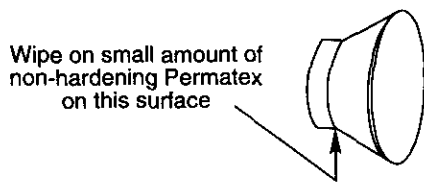

Figure 13
- Place a small amount of No. 2 non-hardening Permatex on surface of insert as shown. Smooth out with finger. See Figure 13.